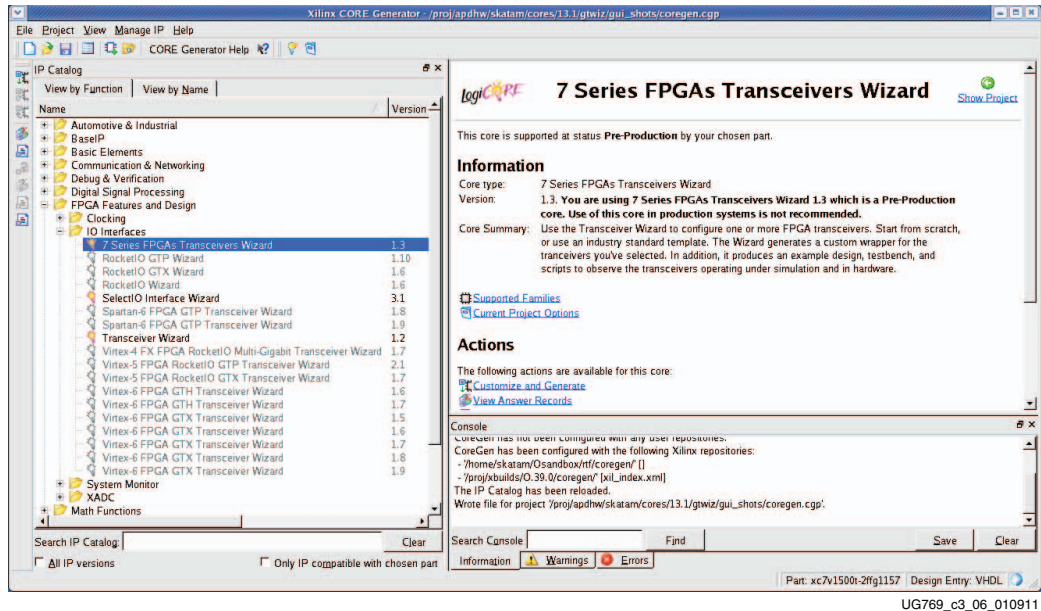

Figure 3-6: Locating the Transceiver Wizard
1. Locate the 7 Series FPGAs Transceivers Wizard 1.6 in the taxonomy tree under: /FPGA Features & Design/IO Interfaces. (See Figure 3-6)